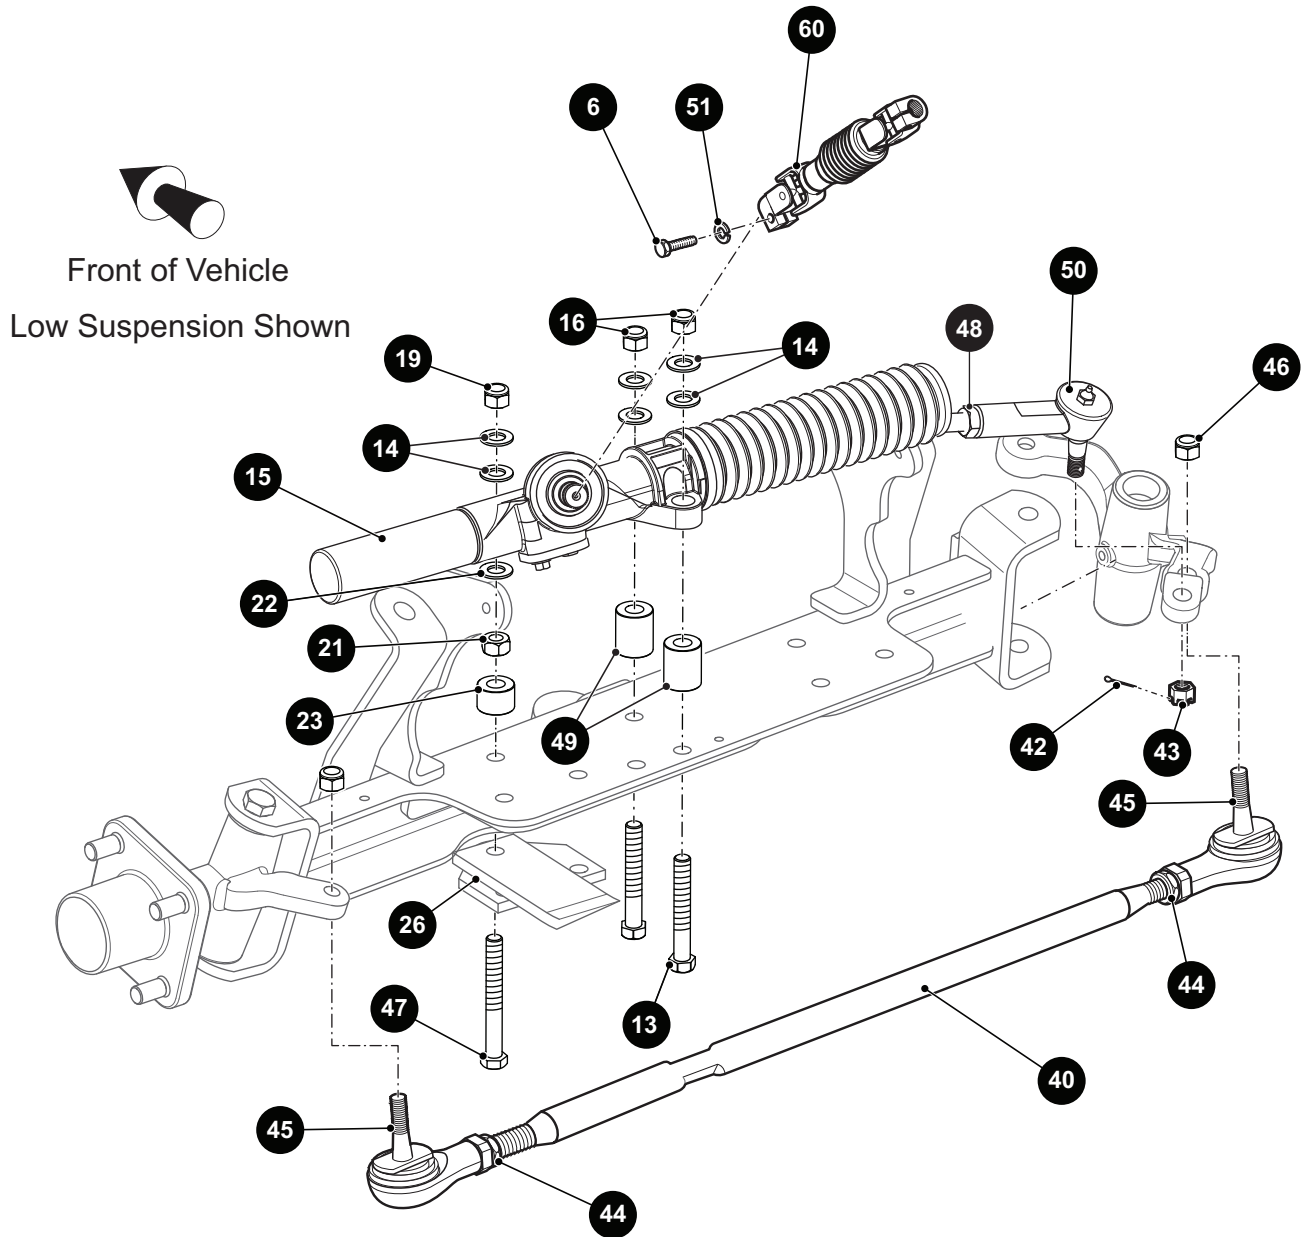
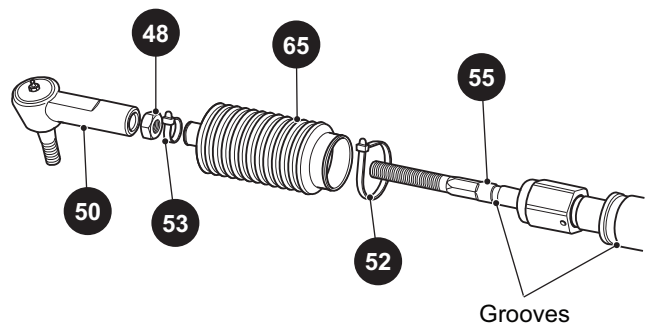

Fig. 10 Steering Components
Fig. 13 Bellows Replacement
- Remove the cotter pin (42) and loosen the castellated nut (43) until the rack ball joint (50) threads are protected (Ref Fig. 10).
- Remove the castellated nut (43) from the ball joint (50).
- Remove the ball joint (50) from the spindle arm.
- Cut away the wire ties (53, 52) from the bellows (65) and pull the bellows back to expose the threads on the rack extension (55) (Ref Fig. 13).
- Grasp the tie rod (40) at the ball joints (45) and check for any vertical motion which would indicate a worn condition and require replacement (Ref Fig. 10).
- Remove the rack ball joint (50) and jam nut (48) from the rack extension (55) (See Rack Ball Joint Replacement on page 43).
- Cut the wire ties (53, 52) and slide the bellows (65) off of the rack extension (Ref Fig. 13).
- Install a new bellows aligning the small end over the groove in the rack extension and secure it with a new wire tie (53).